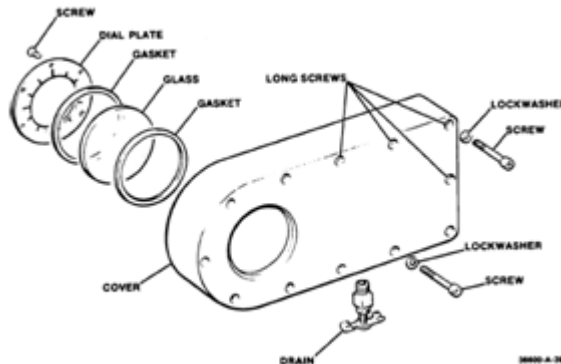

Figure 5-50. Vane Servo Cover
23. Attach vane servo cover to side plate. Holes in top right (Figure 5-50) need four 3-inch-long screws. Eight other holes require 2 1/8-inch screws.